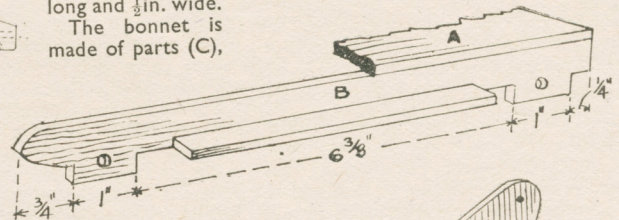

Fig. 2—Broken view of floor and side
In the detail, Fig. 2, the outline of one side is given ready for marking out. The width of this piece is $\frac{3}{8}$ in. and its length $9\frac{3}{8}$ in. There is a projecting footboard fixed to each side (B), as shown, each board being 5in. long and $\frac{1}{2}$ in. wide. The bonnet is made of parts (C),